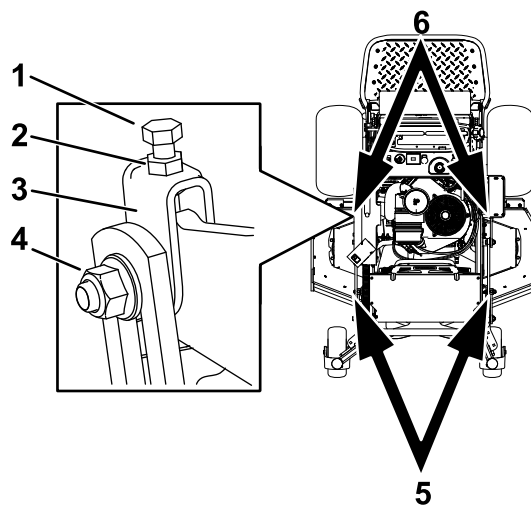

Figure 96
1. Loosen the jam nut and side bolt in the yokes that you want to adjust (Figure 96).
2. Rotate the top bolt of the yokes to adjust the height of the mower deck (Figure 96).
5. If the measurement is not correct, locate the front 2 yokes on the machine (Figure 96).